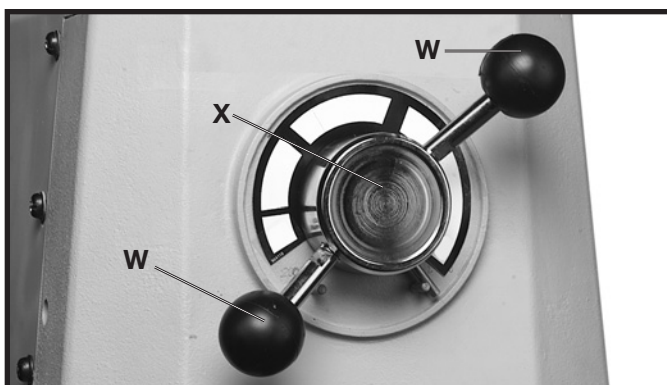

Fig. 17
18. Thread the two variable speed handles (W) Fig.17, into the two tapped holes in variable speed control hub (X).